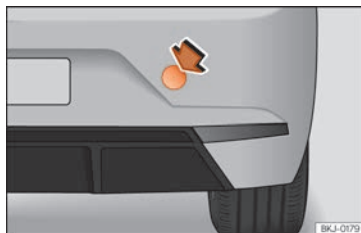

Fig. 101 Right side of the rear bumper: cover-cap.
- To open the cover, press the top right side » **Fig. 101**.